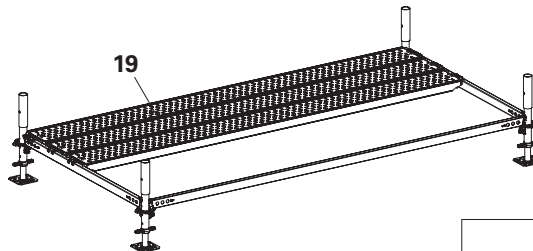
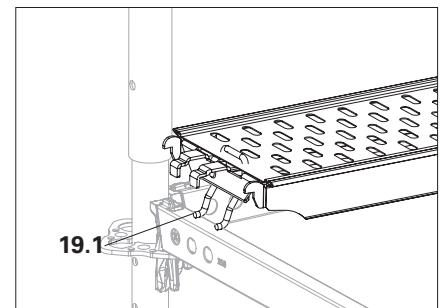

Fig. A3.03
Fig. A3.03a
4. Fit Steel Decks UDG-2 (19) in the base level as an installation aid. (Fig. A3.03 + Fig. A3.03a)